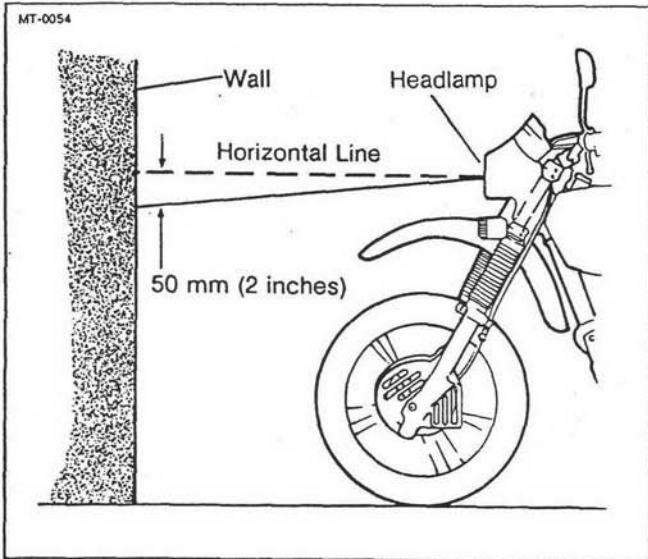

Figure 5-21. Headlamp Adjustment Aiming Point
2. See Figure 5-21. Draw a horizontal line on the wall exactly as high as the center of the headlamp lens is when the operator is seated on the vehicle.